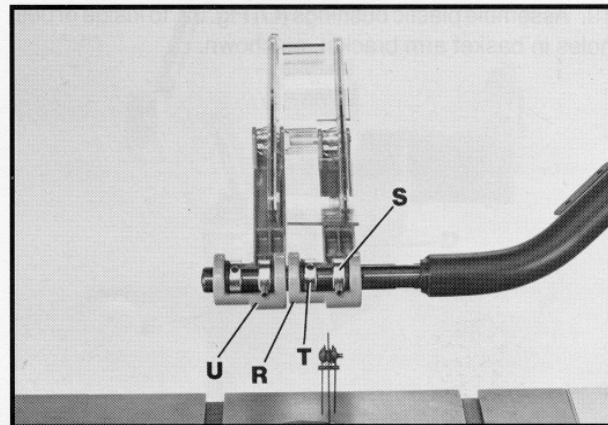

Fig. 36
23. Adjust collars (S) and (T) Fig. 36, in the same manner making sure there is a small gap between the two basket arms (R) and (U) as shown.